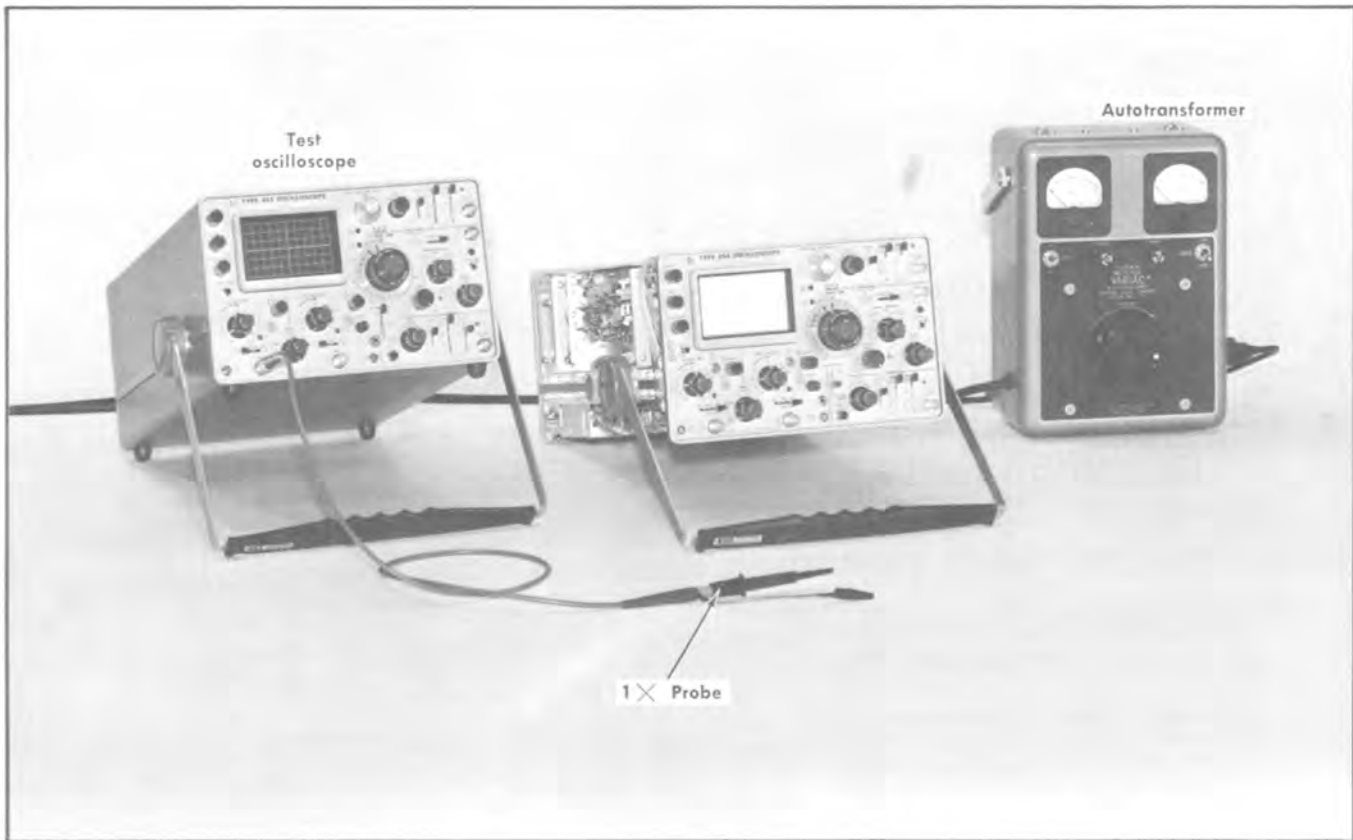

Fig. 6-8. Initial test equipment setup for steps 7 and 8.
- a. Test equipment setup is shown in Fig. 6-8.